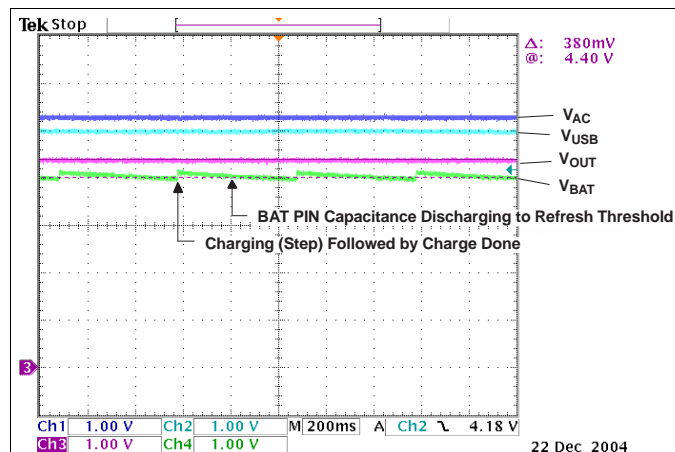

Figure 14. Battery Absent – PWR XFER to USB
If the battery is absent, the BAT pin cycles between charge done ( $V_{O(REG)}$ ) and charging (battery refresh threshold, ~100 mV below  $V_{O(REG)}$ ). See Figure 14.
**Figure 14** illustrates when the battery is absent, power transfers to USB; PSEL = H; channel 1 (CH1) VAC = 5.4 V; channel 2 (CH2)  $V_{(USB)} = 5$  V; channel 3 (CH3)  $V_{OUT}$ ; output current,  $I_{OUT} = 0.25$  A; channel 4 (CH4)  $V_{BAT}$ ;  $I_{(PGM-CHG)} = 1$  A. Note the saw-tooth waveform due to cycling between charge done and refresh (new charge).